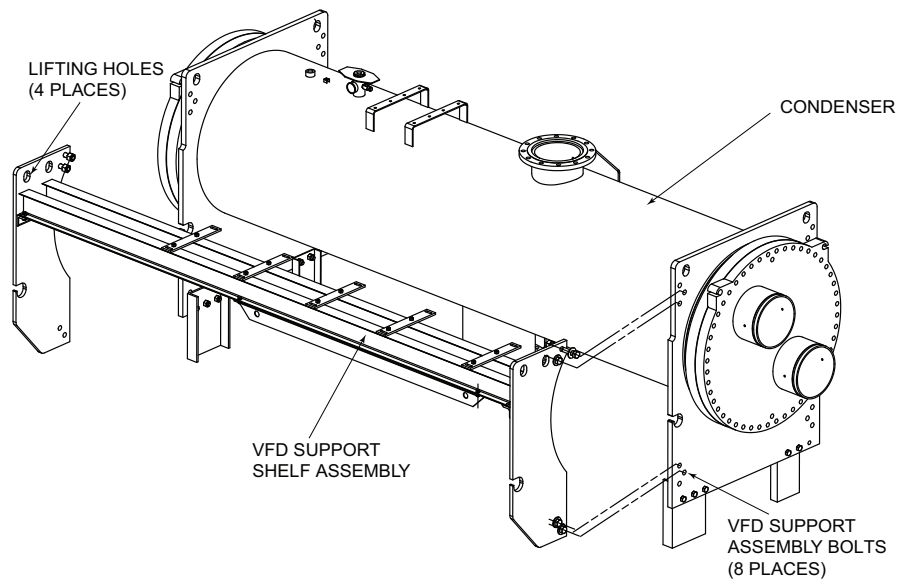

Fig. 26 — 900A or 1200A VFD Support Assembly Installation
3. The VFD support assembly can be removed from the condenser if it is necessary to reduce the width of the condenser assembly. The eight 1-1/8-7 bolts that secure the VFD support assembly to the tubesheets should be torqued to 750 ft-lb (1017 N-m) when the support assembly is reinstalled. See Fig. 26.